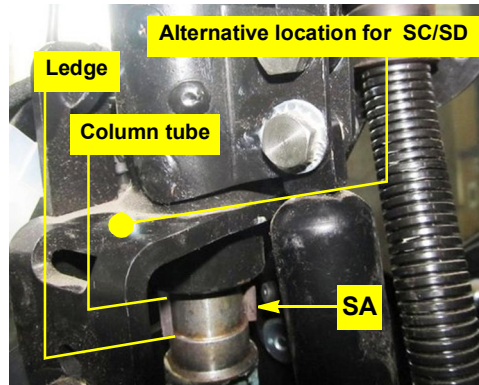

Figure 2b: Installed magnets
- Cut one magnet SA in half horizontally. Using the two-part epoxy SB attach the magnet halves 180° apart on the steering shaft. Attach the magnets between the bottom of the upper column tube and the small ledge on the steering shaft above the universal joint (Figure 2b).